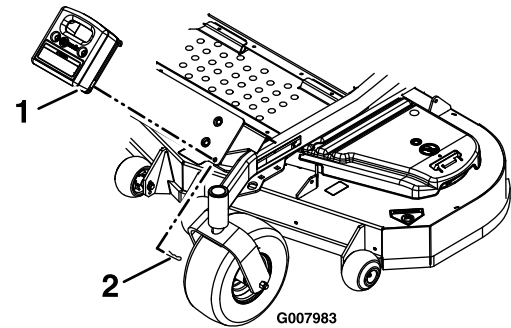

Figure 19
29. Install the removable weights. Hook the front toe board weight assembly over the top of the weight mounting plate and secure with two hairpins (see Figure 19).